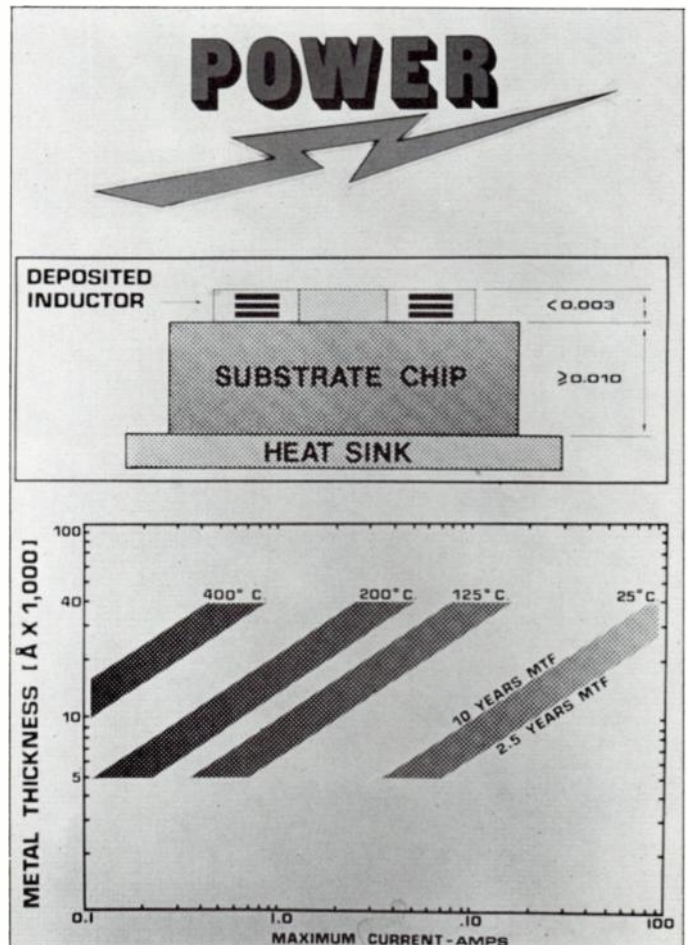

Figure 17.
1. Power Handling: As shown in Figure 17 the components are planar with a very short thermal path. With heat sinking, exceptionally high current levels can be carried.